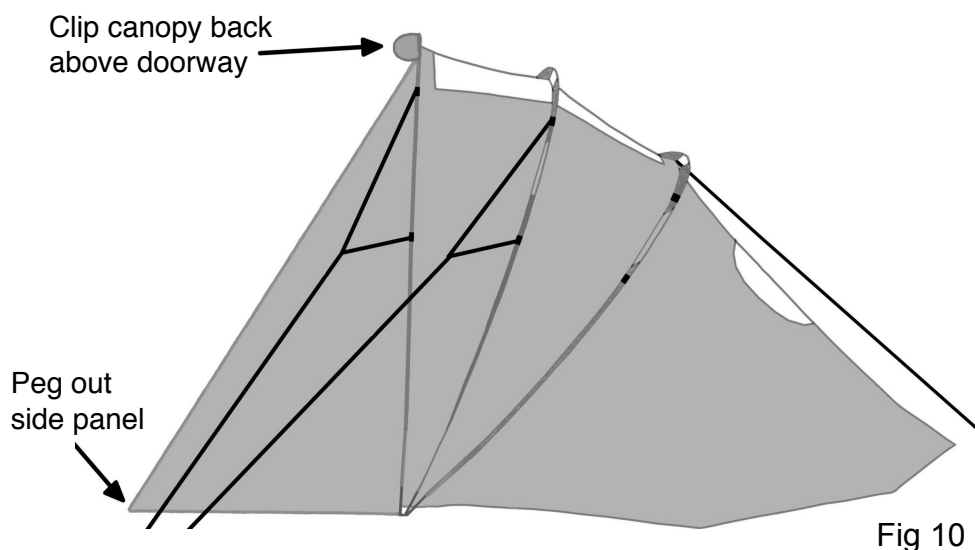
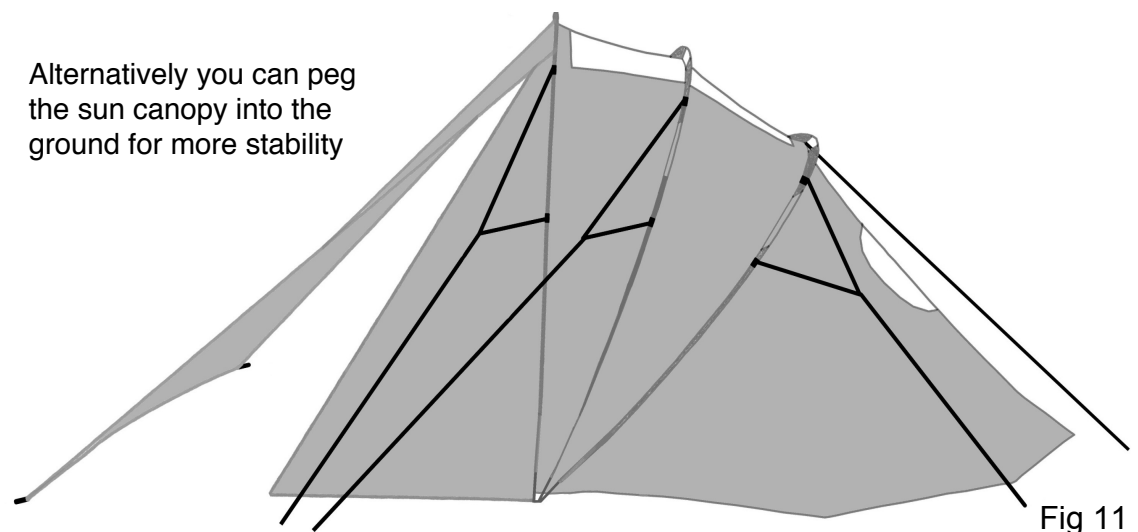

Fig 10
Fig 11
6. Start pegging out the rainfly starting below the circular window and working around to the sides. Make sure that the fabric tension is even but not too tight. You may have to go around twice to adjust the placement of the tent pegs to make the fabric taut. Peg out the two side panels to provide more stability to the Pod tent (Fig 10).
Peg out the two side panels that are attached to the Pod tent (Fig 10). This helps to direct the rainwater away from the area underneath the canopy. To stop the water from pooling around the vehicle attachment edge, lower one of the vertical poles in the canopy to let the water run off (Fig 9). This will also reduce the chance of leaks above the vehicle doorway. This is more likely to happen if you are using the C channel attachment method.
The sun canopy can act like a giant sail and flap around. This puts tension on the Pod tent and the area where it attaches to the canopy. If it gets windy, we recommend that you secure the Pod tent with extra guy lines. Peg the guy lines attached to poles sleeve 1 & 2 so that they run towards the vehicle (Fig 10).
Peg the guy lines on pole sleeve 3 in the opposite direction (Fig 11). Also ensure that the side windbreaker panels are pegged out to provide extra vertical support for the Pod tent. Only detach the sun canopy from the vehicle AFTER you have followed these steps. Remove the vertical and horizontal poles, gather up the material and clip canopy above the Pod tent doorway (Fig 10). Alternatively you can peg the sun canopy into the ground for more stability (Fig 11).